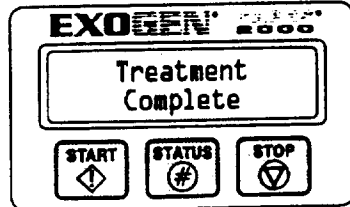

Fig. E.8
- a. The device will automatically stop treatment after 20-minutes. A beeping sound of 1 beep per second will indicate that treatment is complete and the display will read "Treatment Complete" (Fig. E.8). The green light on the THM will go out.